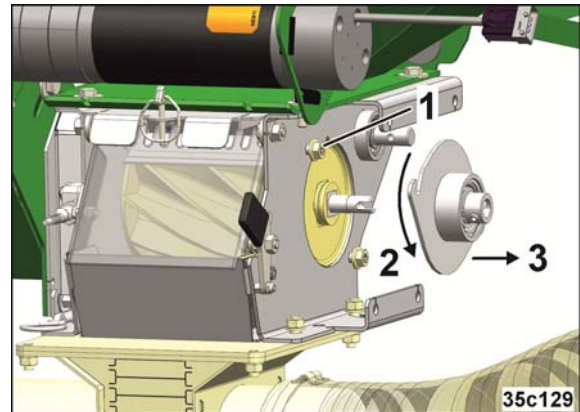

Fig. 48
5. Loosen two nuts (Fig. 48/1) with the removable handle (see Fig. 10/2), but do not remove.
6. Twist (Fig. 48/2) and remove (Fig. 48/3) the bearing cover.